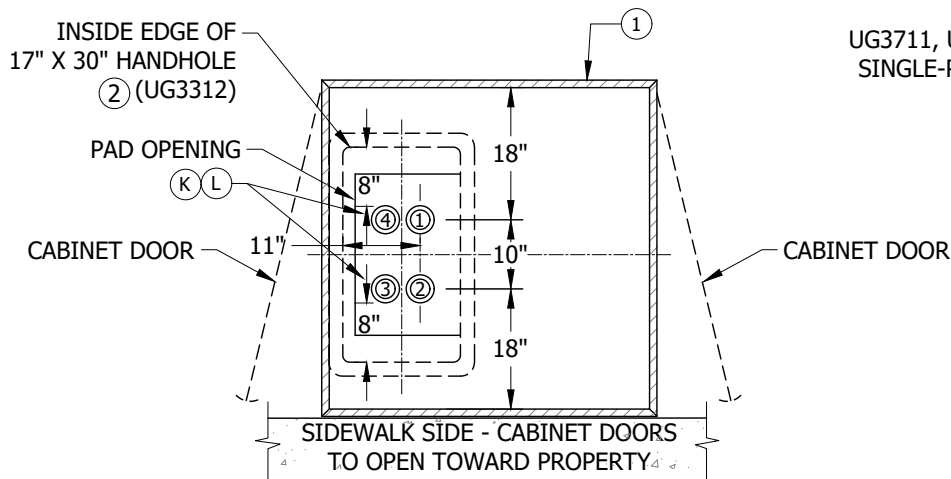

FIGURE 8
K. THE MAXIMUM PRIMARY CONDUITS ALLOWED ARE ULTIMATE 4 RUNS OF 4-INCH CONDUIT AS SHOWN IN FIGURE 8.
L. SET PAD LEVEL TO FINAL GRADE AND INSTALL EQUIPMENT GROUND. TERMINATE CONDUITS 3 INCHES ABOVE BOTTOM OF HANDHOLE. INSTALL CONDUITS AS SHOWN IN FIGURE 8, 9 AND 10.